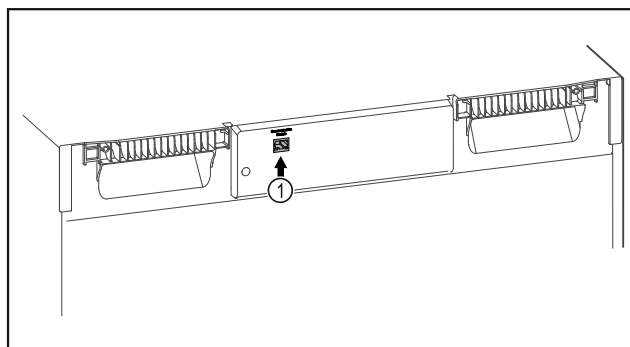

Fig. 113
- SmartModule Fig. 113 (1) is in use.